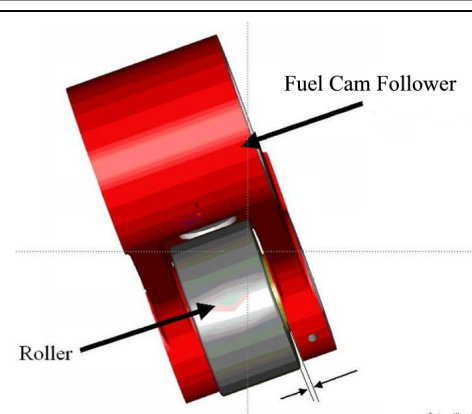

Figure 2
3. **Visual inspection** to determine if the bronze-coloured bush of the roller is visible (see Figure 2). If the roller is in proper condition, the bush should not be visible.